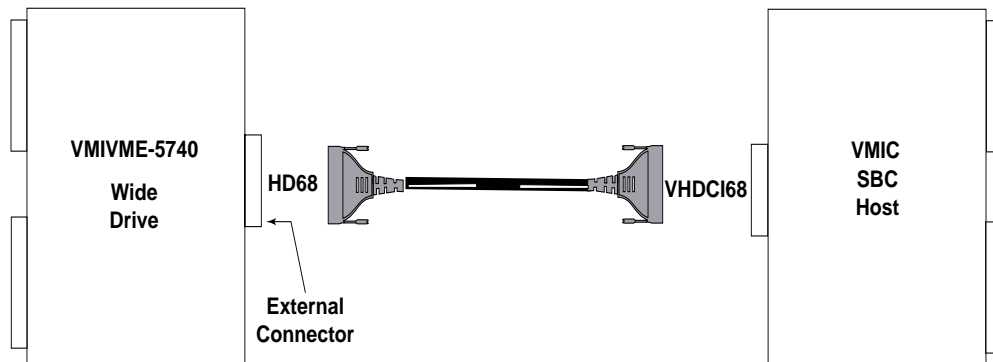

Figure 1-4 Typical VMIVME-5740 Connectivity
- Figure 1-4 Typical VMIVME-5740 Connectivity 15
Figure 1-4 below illustrates the typical connectivity of the VMIVME-5740 with a host SBC.